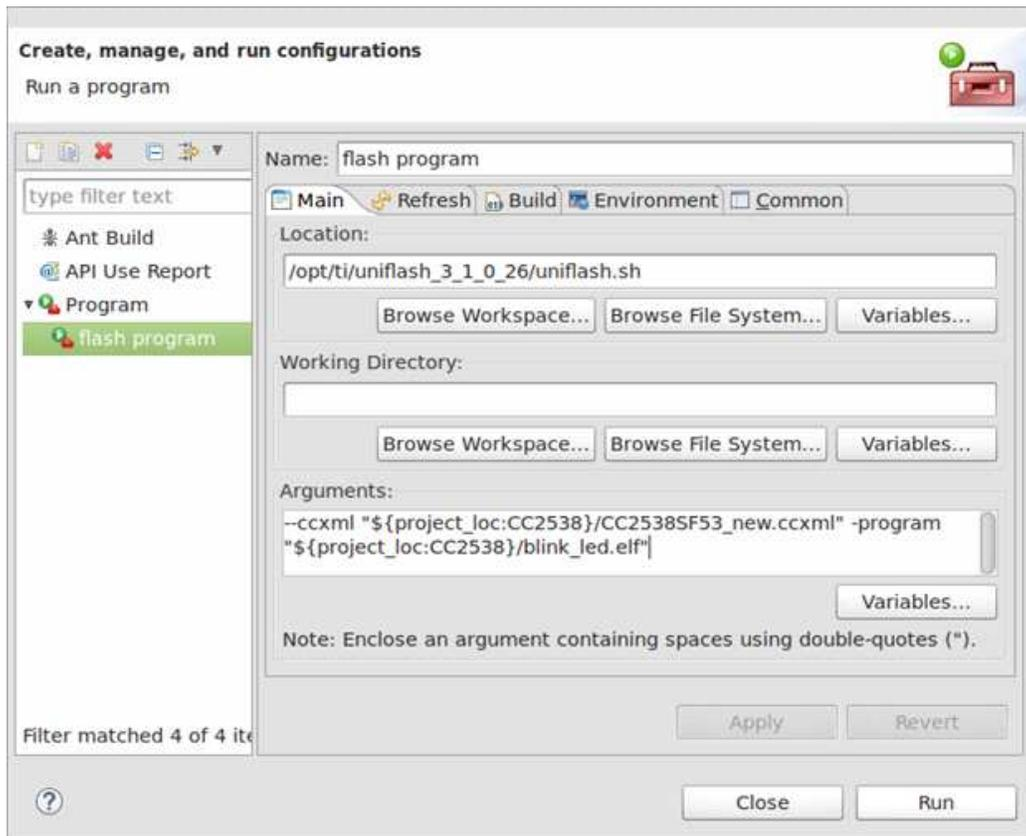

Figure 16. Configuring the Flash Programmer Tool (Linux)
3. Fill in name, location and arguments as shown in Figure 16.